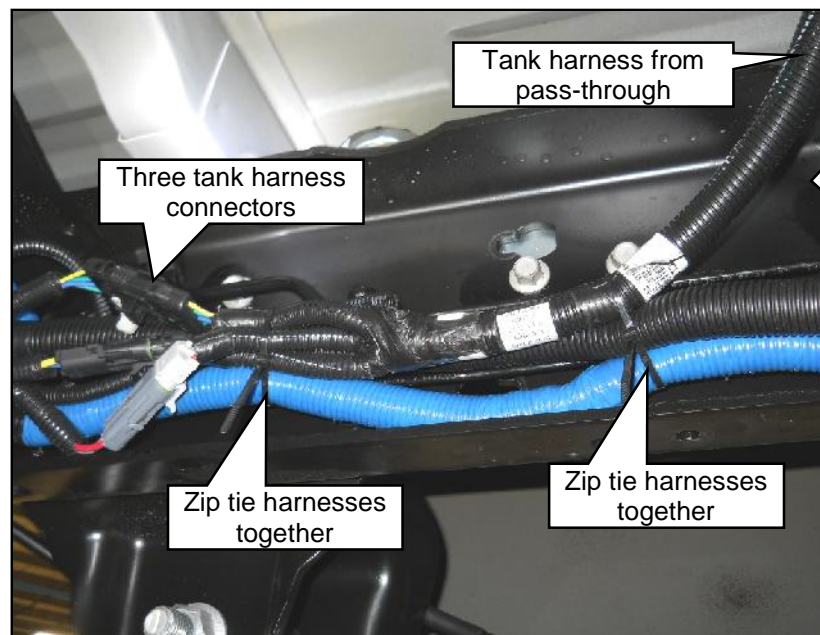

Figure 20.4
6. Route the tank harness over to the rear wiring harness. Bundle the harnesses together and use zip ties to secure the harnesses to each other. **Figure 20.4.**
7. Attach the three tank harness connectors to the rear harness tank connections. **Figure 20.4.**